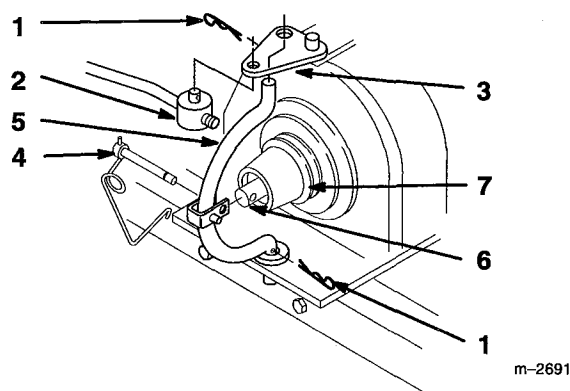

Figure 14
3. Remove hairpin cotters from trunnion and bottom of yoke (Fig. 14).
4. Unlatch and remove clevis pin that secures yoke assembly to clutch shaft. Pivot yoke out and forward to remove from clutch shaft and engagement plate (Fig. 14).
5. Place belt in pulley groove, going between clutch yoke and engagement plate (Fig. 14).
6. Assemble yoke and engagement plate and attach clevis pin, trunnion and hairpin cotters to secure (Fig. 14).